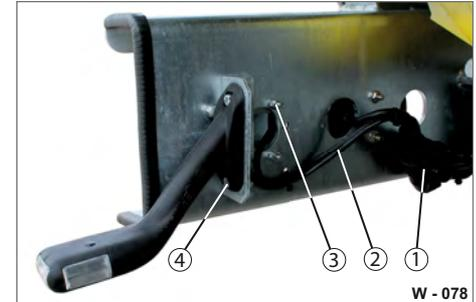

Fig. 76 Rear lighting, mounting
- ▶ Release the respective bolt connection (Fig. 76/1, 3, 4).
- ▶ Disconnect the respective connection cable (Fig. 76/2).